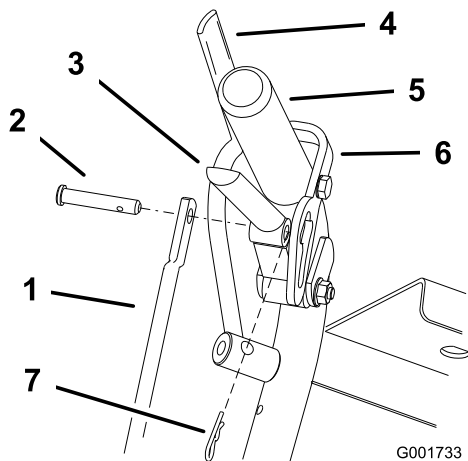

Figure 36
1. Adjust the rod length by releasing the drive lever and removing the hairpin cotter pin and clevis pin. Rotate the rod in the rod fitting (Figure 36).
4. Place the clevis pin into the drive lever (Figure 36).
6. Install the hairpin cotter pin between the drive levers and the neutral locks and into the clevis pins (Figure 36).